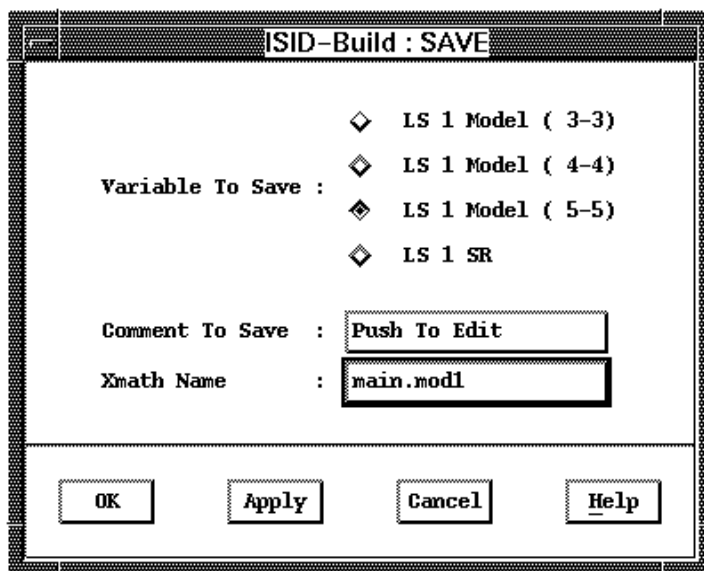

Figure 2.8 The “SAVE” window allows you to save the identified model in two Xmath variables.
10. Raise the **Least Squares Identification** window and select the menu entry Special → Save Output to Xmath. The “SAVE” window in Figure 2.8 pops up. You should first select the output to be saved. Since you found the fifth order model to be the best, click on the diamond to the left of the text “LS 1 Model (5-5)”.
Hit the OK button in the “HISTORY” window. The only thing left to do is to specify the name of the Xmath variable the least squares model is saved in. Use the text area to the right of the text “Xmath Name” to do so. Enter the name `mod1` as shown in Figure 2.8 and press return. Hit the OK button in the “SAVE”